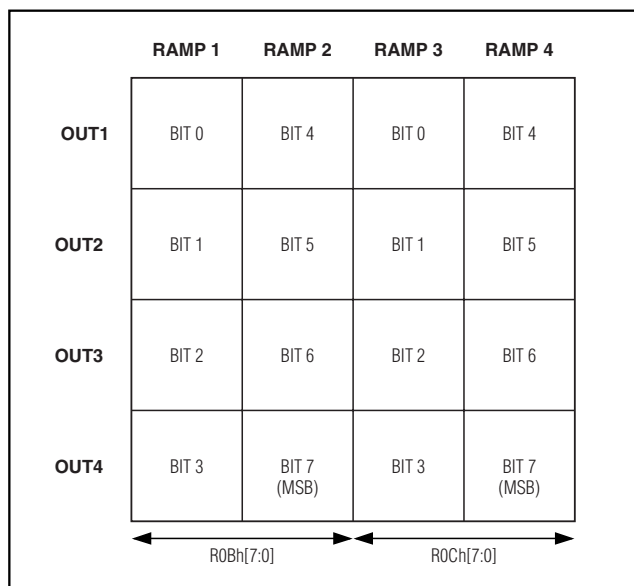

Figure 6. Mapping Tracking and Sequencing Modes
intended to provide only tracking for the four supplies (only one ramp is generated). To control one particular channel, insert a "1" in any of the four possible positions (one row for each channel contains 4 bits) and the circuit will generate the proper signals (see Figure 6).
To configure tracking and sequencing modes, insert "1" and "0" into the 0Bh and 0Ch registers (see Table 2). Figure 6 shows how to map for tracking and sequencing modes. Each  $\text{OUT}_n$  output can follow one of the four possible ramps in tracking or sequencing mode (16 bits are available) and one bit set to "1," means that the channel of the interested row is powered up/down by the corresponding ramp (see Figure 6).
- 1) If the depicted table (in Figure 6) is made by all "1s," the part simply generates a single ramp (all channels in tracking mode since the first column is full of "1s,") and it ignores the remaining values of the other 12 bits.